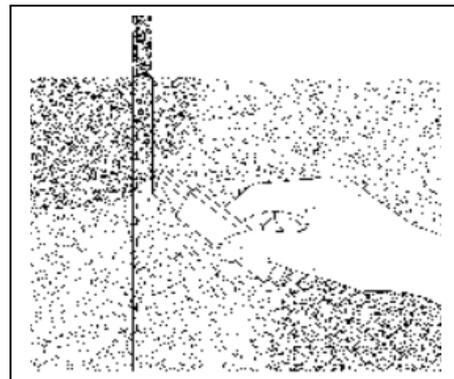

Figure 27. Cutting at a Caulked or Gasketed Substrate Seam
1. Films that bridge over a caulked seam or gasket will not adhere. If the edges are not cut, moisture can get behind the graphic and cause it to fail. Cut the film on both sides of the caulking and remove the strip of film covering the caulking or gasket. See Figure 27.